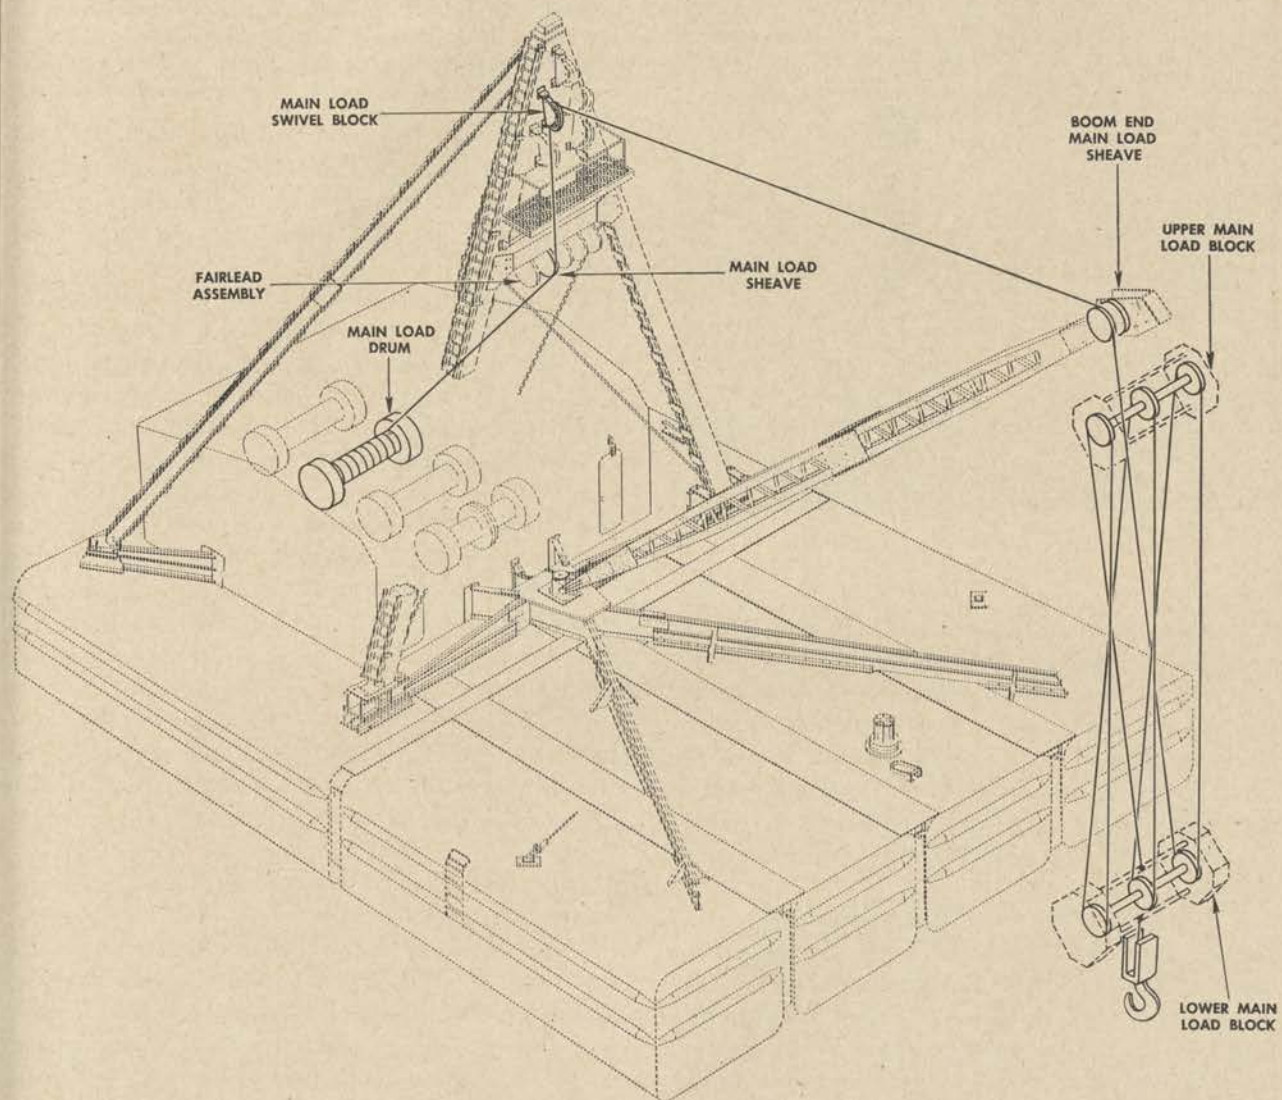

Figure 136. Reeving of load cable.
g. REEVING MAIN LOAD LINE (FIG. 136). (1) Unreel the main load cable on to the main load drum of the hoist. Make sure that the direction of reeling is such as to have the end of the cable lead off from the rear of the drum. Also make certain that the cable is securely clamped to the drum flange, as shown in figure 134.
(2) Since reeving the main load line requires a suspension of the load block and the load block hanger, it will be found convenient to raise the boom to a comfortable working height by operating the Diesel engine.
(3) Bring the free end of the cable from the main load line drum out through the opening of the deck-house roof, and pass the cable around the sheave and swivel block. (See fig. 136.)
(4) Pass the end of the cable from the right hand swivel block around the main load line sheave, which is centered in the boom end.